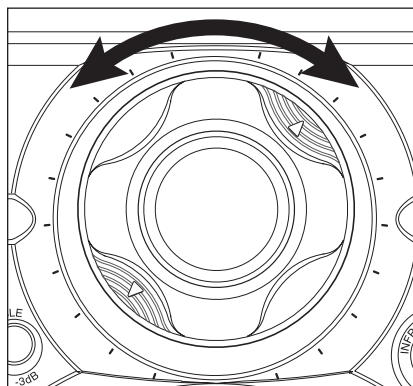

Figure 19
2. Rotate the tweeter housing either clockwise or counter clockwise as required. The mechanism is indexed at equal intervals so that both speakers in a pair can be adjusted equally. Simply count the number of "clicks" as the first tweeter is adjusted. Repeat the process for the second speaker, rotating the tweeter the same number of "clicks" in the opposite direction (See Figure 19).